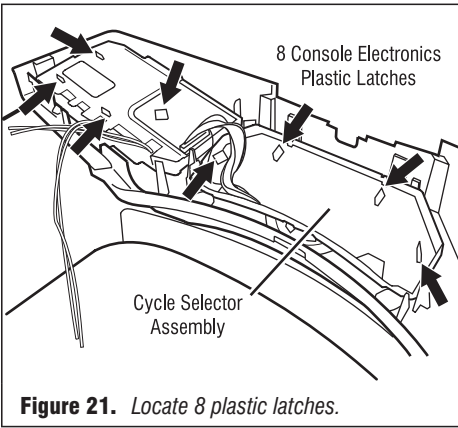

Figure 21. Locate 8 plastic latches.
6. The console electronics is split into two assemblies connected by two cables. Each assembly is fastened to the decorative piece by four plastic latches. To remove these assemblies, gently compress the plastic latches while pulling up on the assembly. For the cycle selector assembly, the cycle selector knob must first be removed by firmly pulling on it or gently prying it straight upward. See figure 21, page 11.